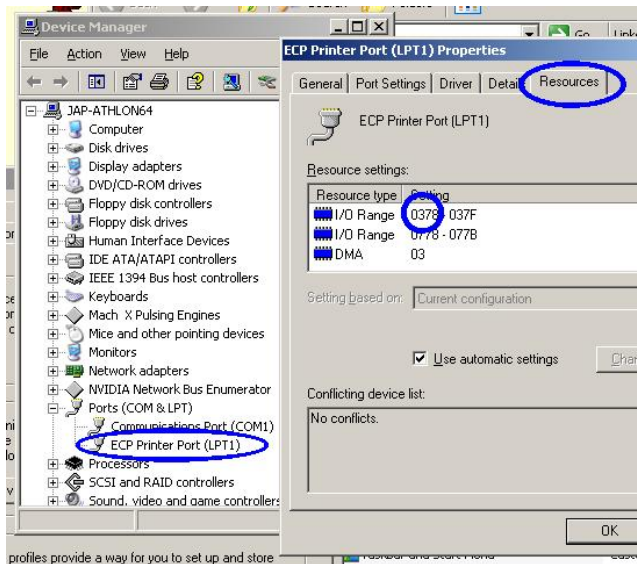

Figure 9.13 – IO address in Resources
8. Choose the “Resources” tab and take note of the first number under “Setting” that corresponds with the first “Resource Type” I/O Range (figure 9.13). This shows the standard value for a motherboard port. A PCI port will not start with a zero – it will probably be something like CD80 (as it is a hexadecimal number it can have digits A, B, C, D, E or F in it). Write down the four numbers and/or letters. This is your “Printer port address in Hex.”